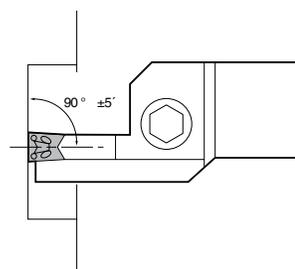

Fig.7
Whitish trace remains at the groove bottom.	<ol style="list-style-type: none"> (1) Increase the cutting speed for finishing process only. (This can handle most of the cases.) If the method is not successful, try (2) as follows. (2) Check the insert edge's parallelness. [Adjustment: Apply the insert edge to the work face and adjust the toolholder within the angle of $\pm 5^\circ$. (Fig.7)]